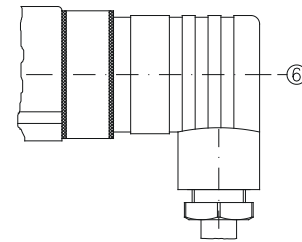

Fig. 10
- ☞ Plug the cable socket ② on the connector ① and tighten the central screw ⑥ (→ Fig. 10).